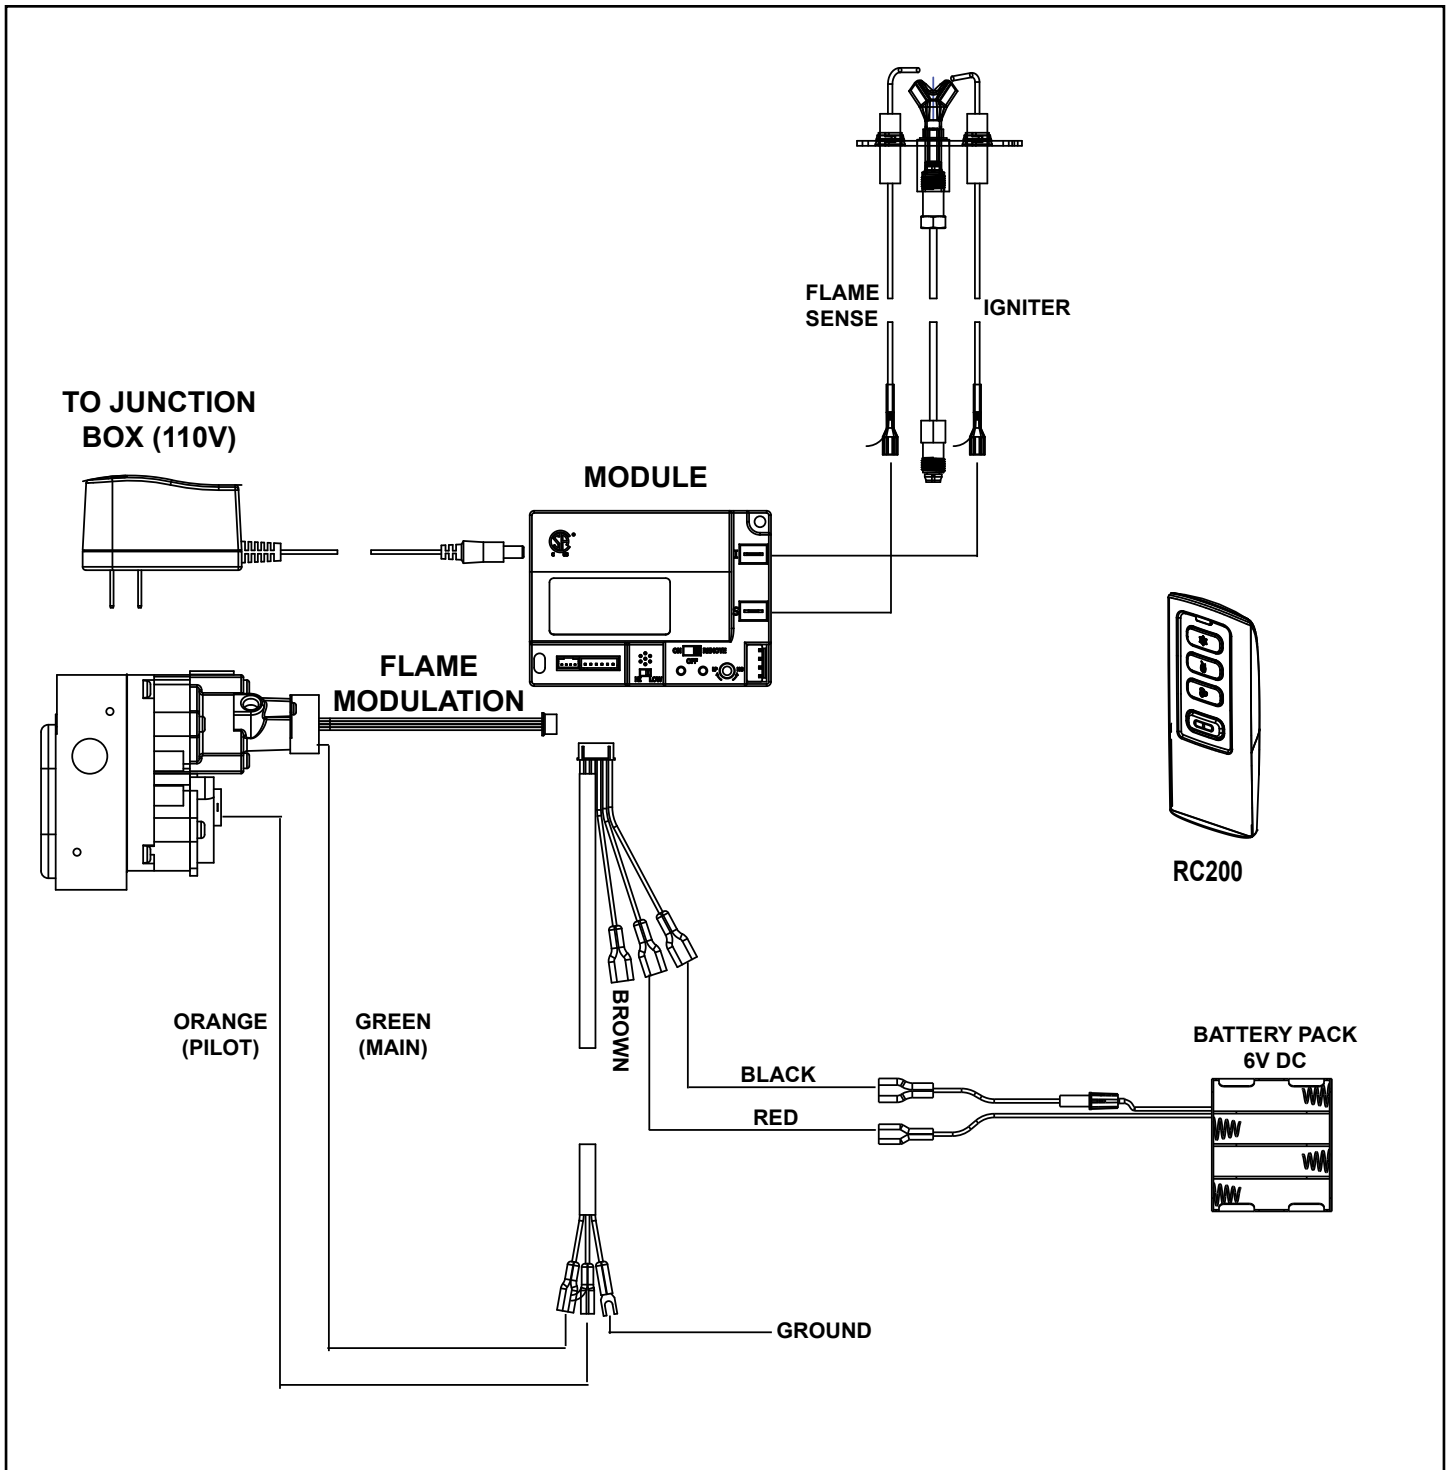

Figure 8.2 Intellifire™ Plus Ignition (IPI) Wiring Diagram
- Refer to Figure 8.2, IPI Wiring Diagram.